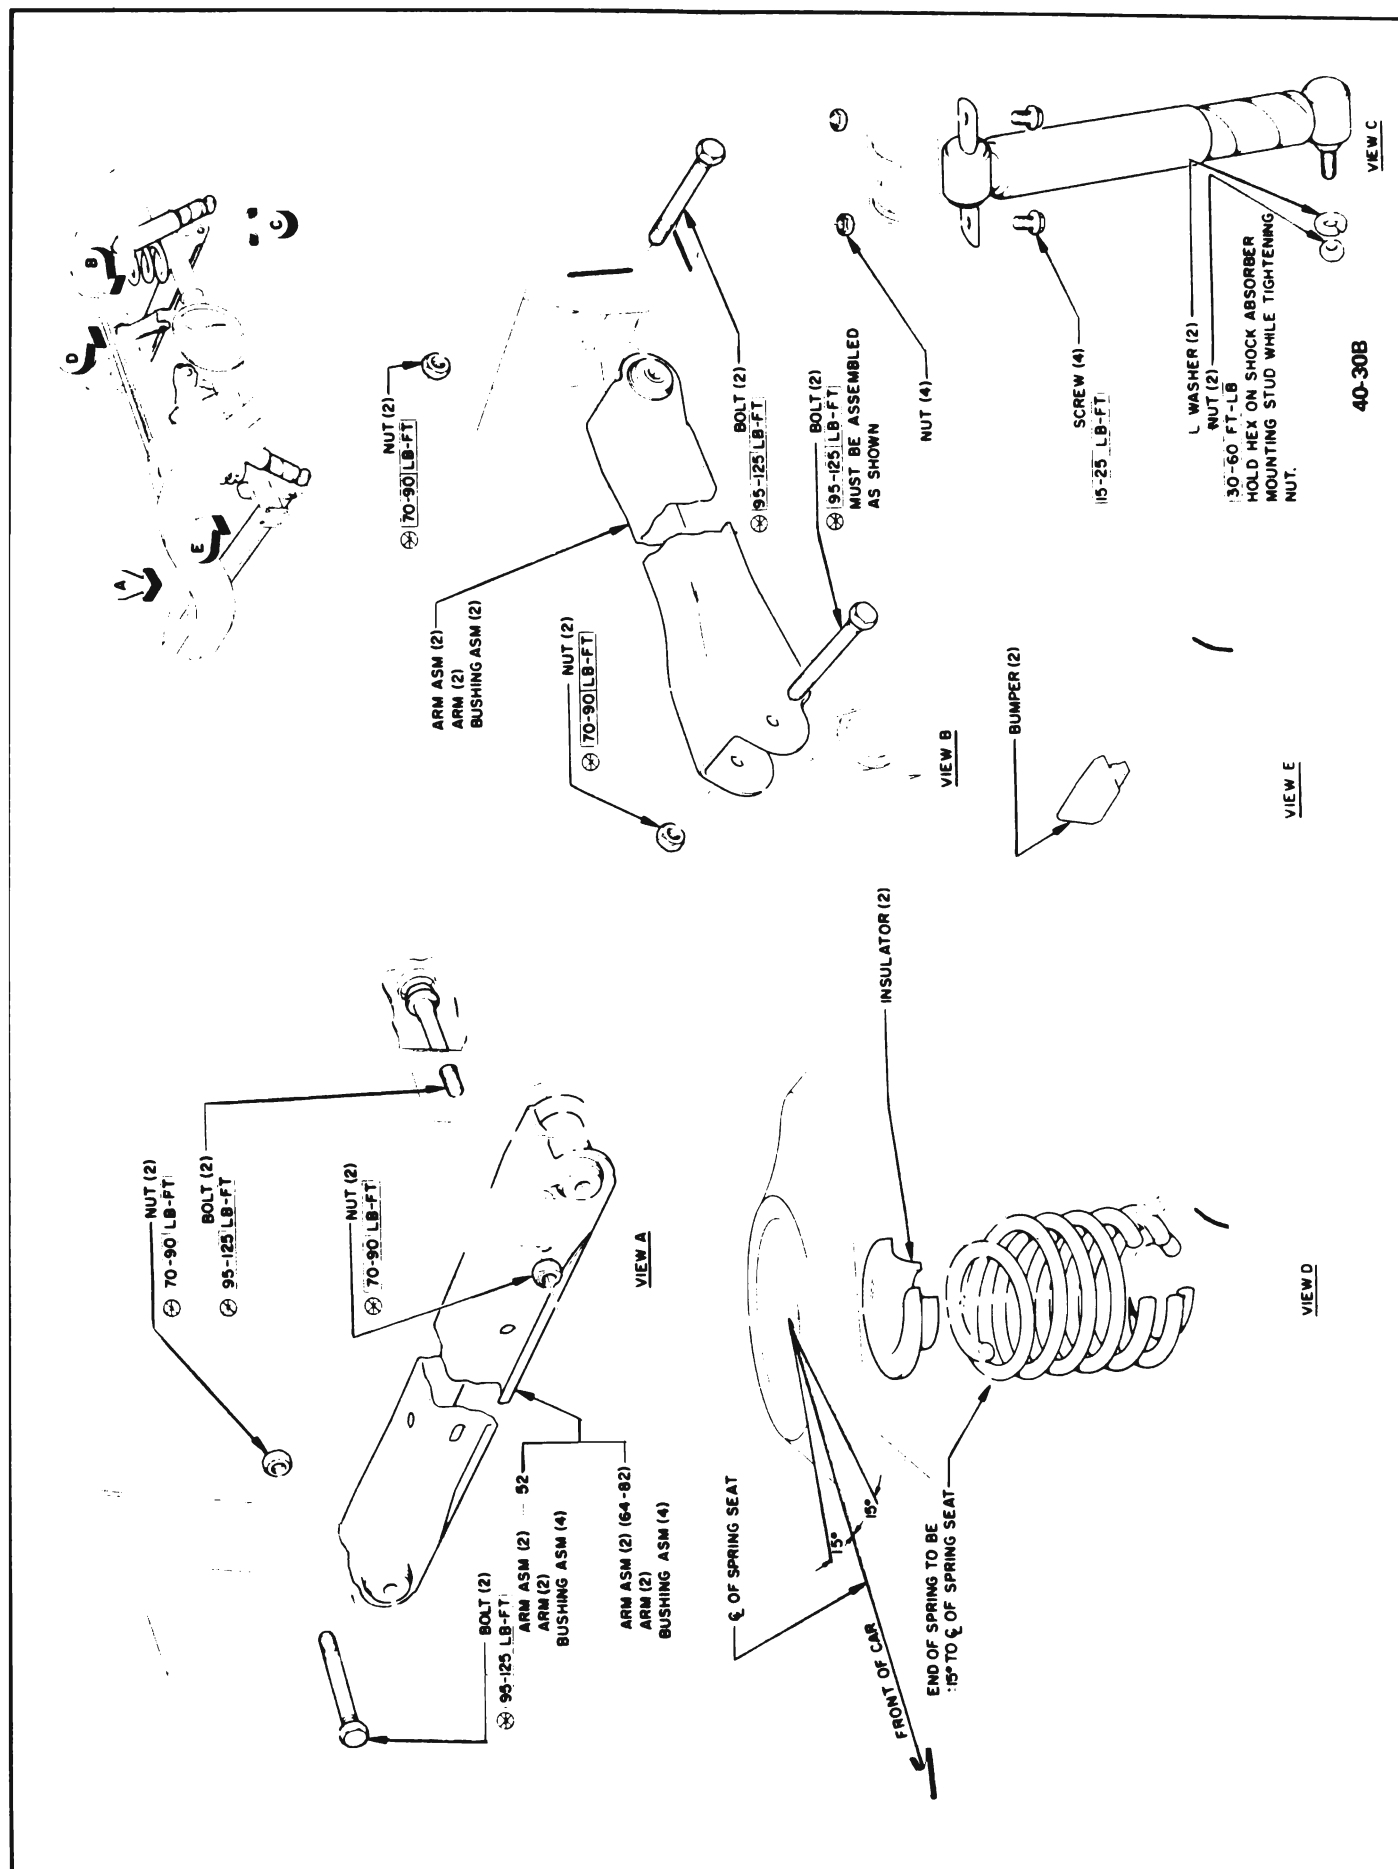

Figure 40-2 - 45-46-48000 Rear Suspension
1. Install insulator on top of spring and position so that end with identification code tape is at bottom of the spring seat. (45-46-48000 only) Rotate spring so that top end is located as shown in Figure 40-2.